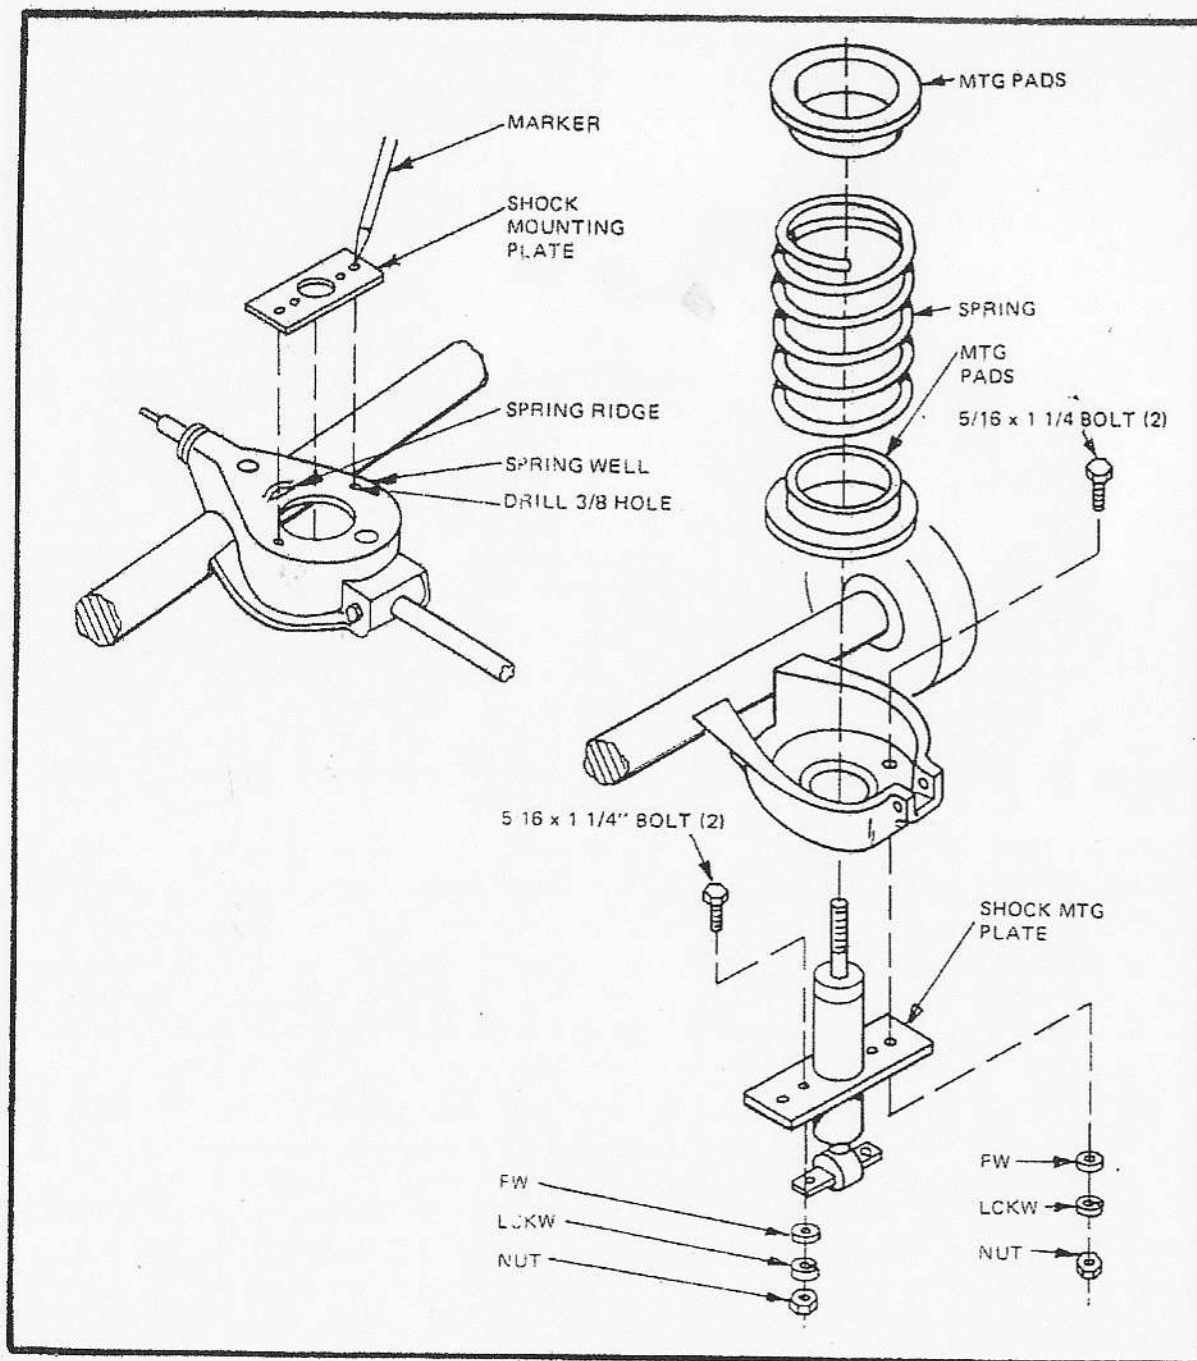

Figure 13
- ☒ Turn the entire assembly over, so the bottom of the spring wells are up. Using the shock mounting plates supplied as a template, lay it over the spring well, pushing it against the spring ridge as shown, and mark the hole locations. They should be evenly spaced on either side of the central hole. Drill 3/8" holes at marked locations. (Figure 13)